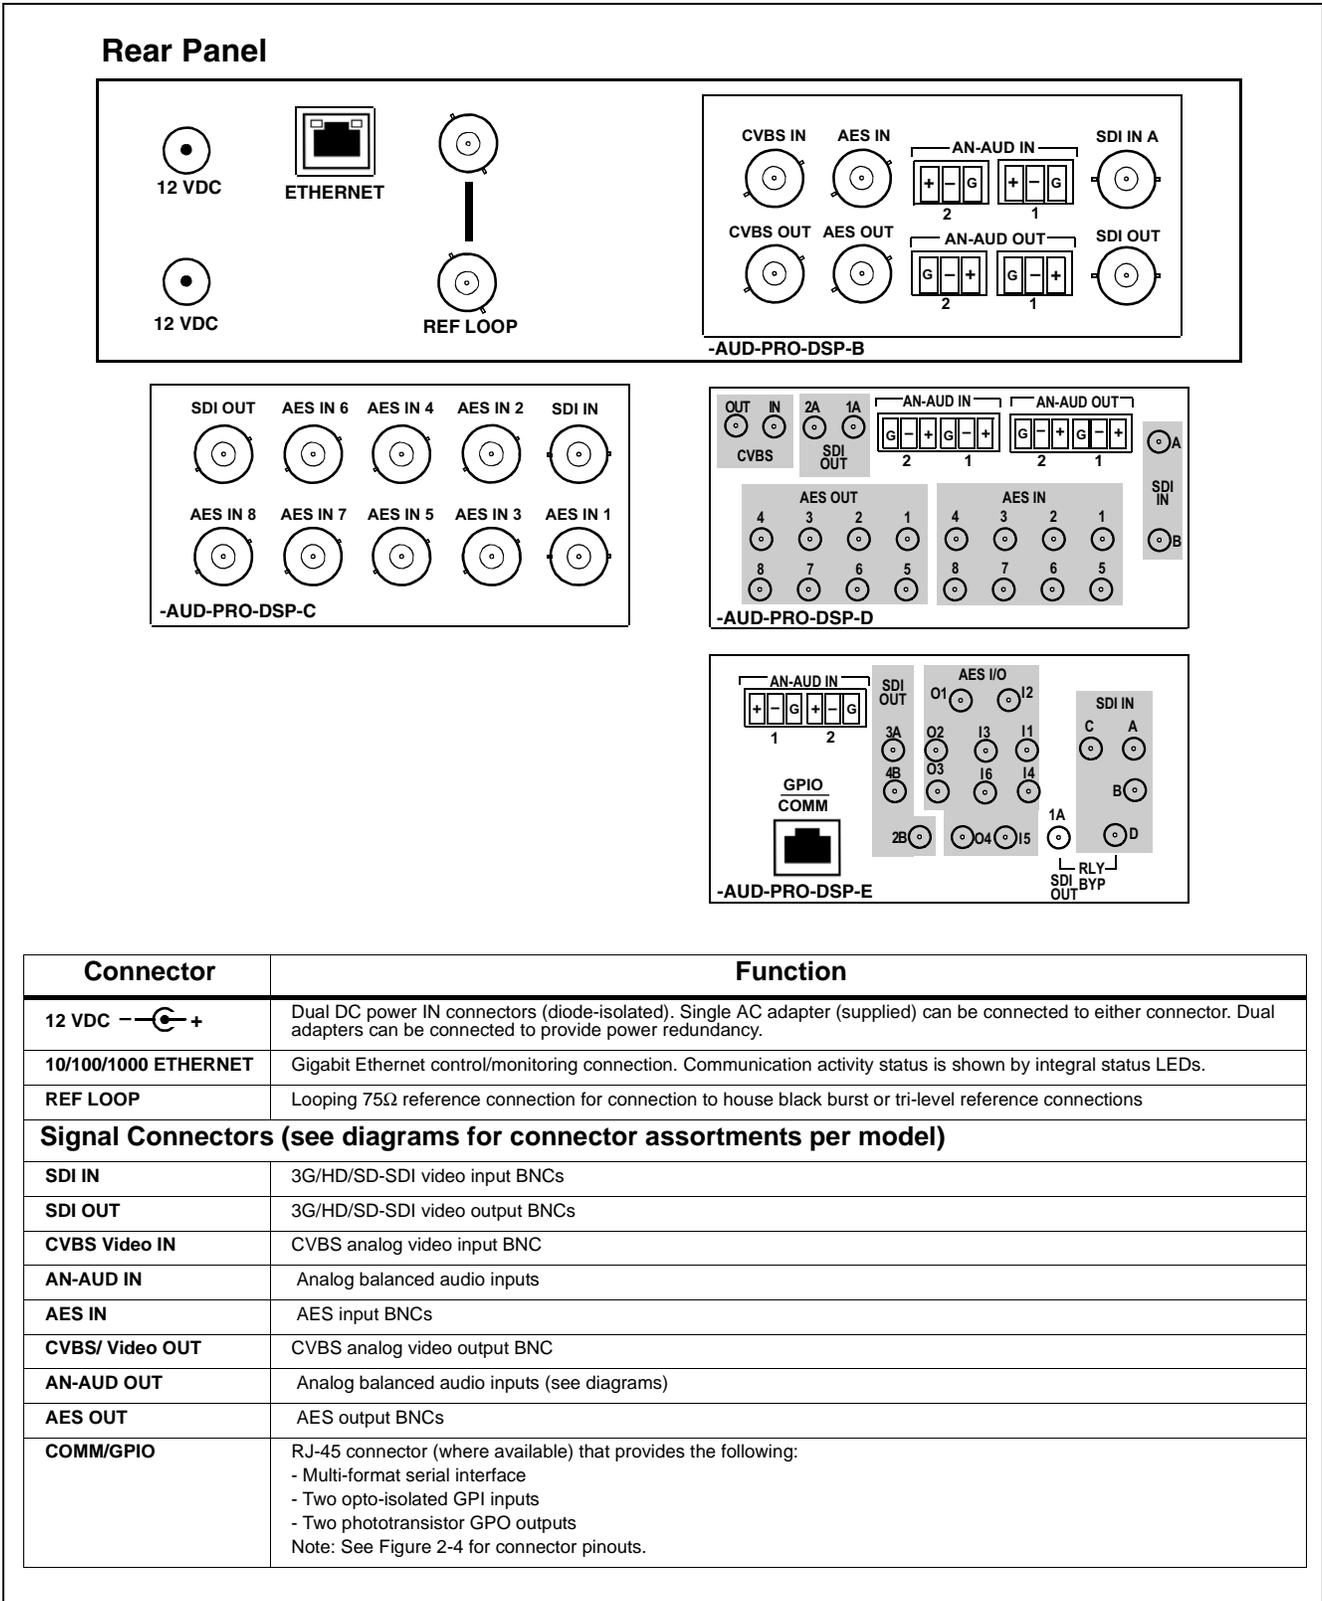

Figure 2-3 BBG-1034-AUD-PRO-DSP Rear Panel Connectors
2. Connect the input and output cables as shown in Figure 2-3.
Perform rear panel cable connections as shown in Figure 2-3.